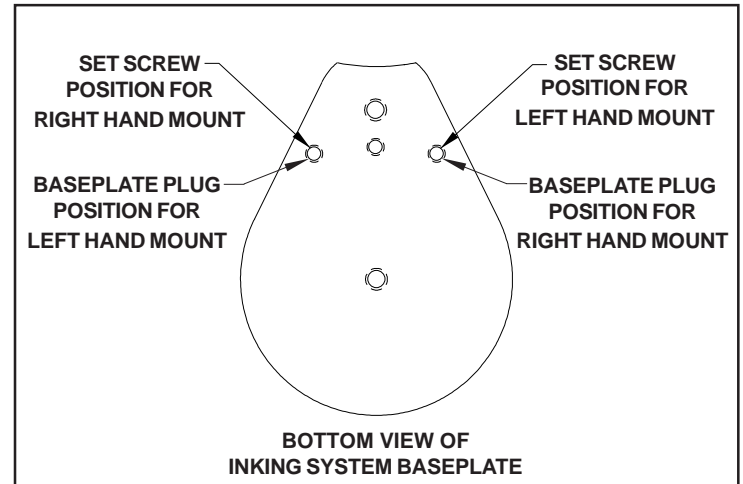

FIGURE 55
- 8 - Remove the Baseplate Plug from the bottom side of the Inking System Assembly Baseplate (Figure 55).